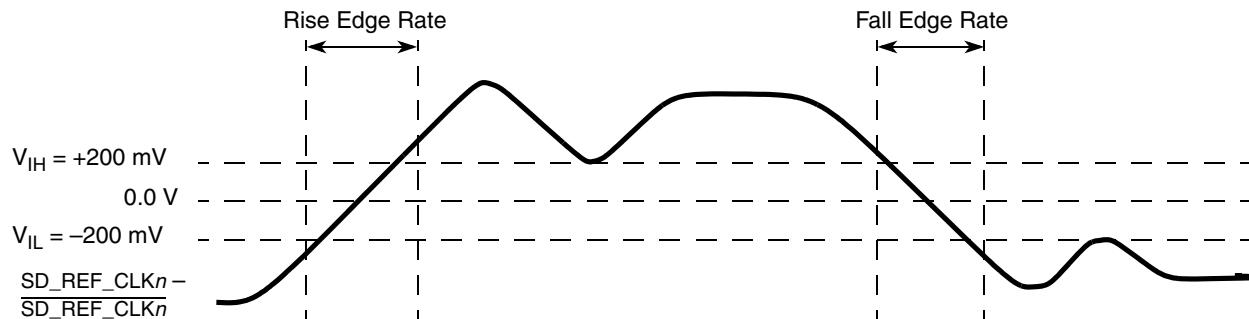

Figure 40. Differential measurement points for rise and fall time
waveform is not referenced to ground. See Figure 40, “Differential measurement points for rise and fall time,” as an example for differential waveform.
3. Measured from -200 mV to +200 mV on the differential waveform (derived from SD_REF_CLK n minus $\overline{SD_REF_CLKn}$). The signal must be monotonic through the measurement region for rise and fall time. The 400 mV measurement window is centered on the differential zero crossing. See Figure 40.